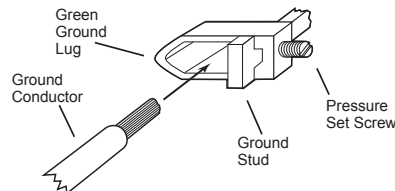

Figure 4. Ground Wire Connection
9. Attach green ground conductor to green ground lug labeled "G". Back out set screw part way. Insert conductor between ground stud and "V" shaped end of green ground lug (See Figure 4). Do not put conductor under pressure set screw. Tighten pressure set screw to 12-14 in./lb.